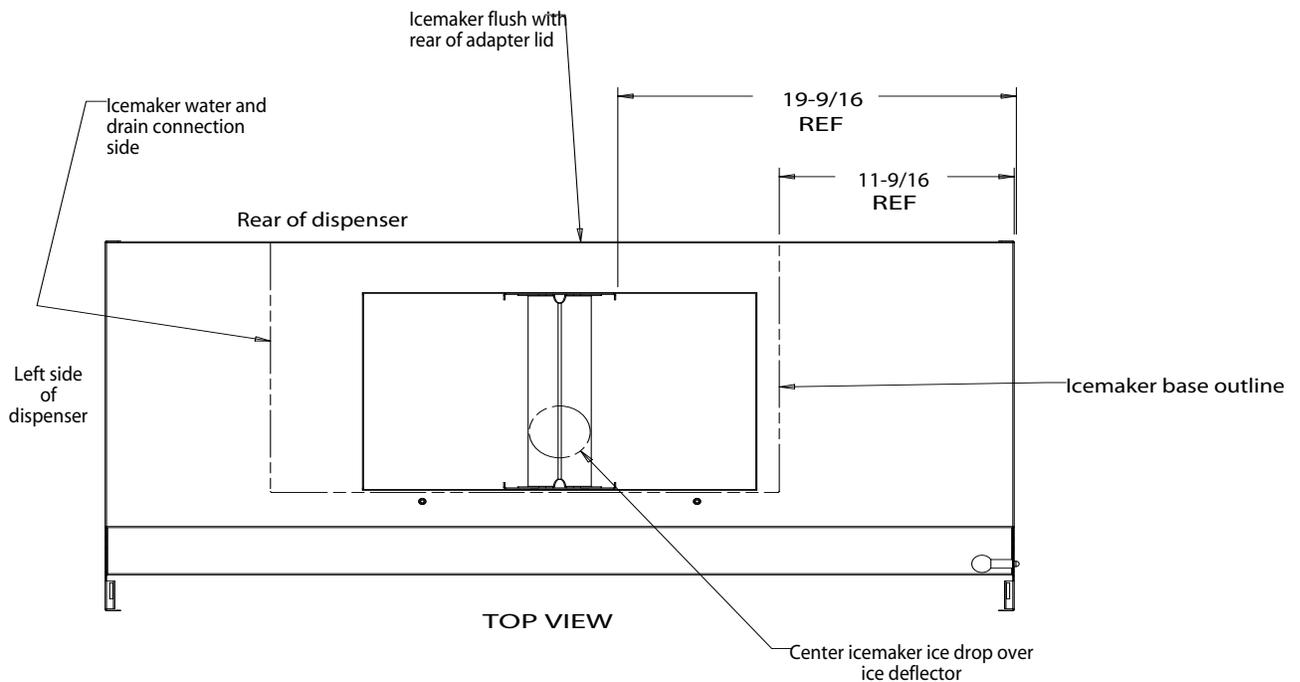
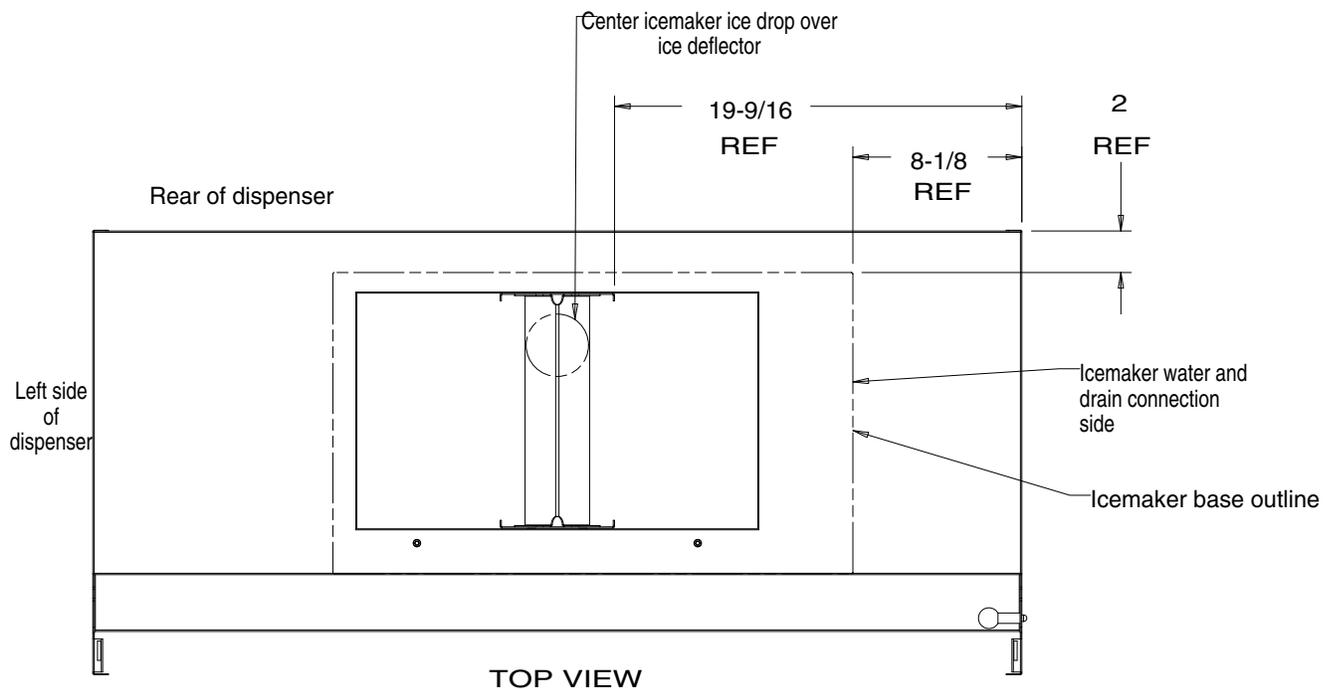

Figure 2.. Icemaker Mounting Details (Option A)
Figure 3.. Icemaker Mounting Details (Option B)
9. Set icemaker onto the adapter kit. See Figure 2 and Figure 3 for location dimensions.